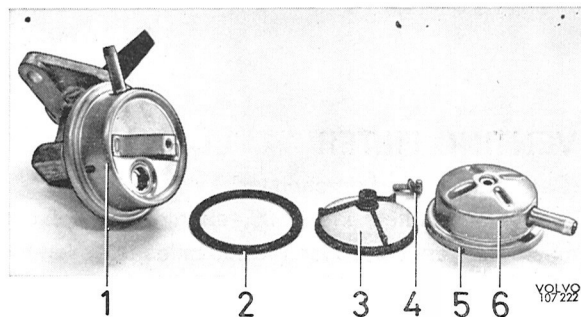

Fig. 2-142. Fuel pump, Pierburg
1. Remove the cover (6, Fig. 2-142), the filter (3) and the seal (2).
4. Install the cover. Make sure that the profiles in the body and cover (see 1 and 5, Fig. 2-142) coincide.